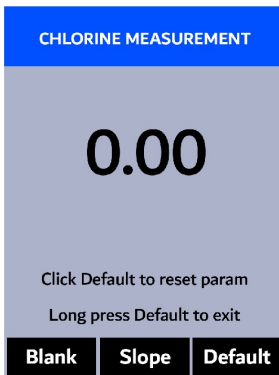

Figure 41.
9. Press **Cal** () to launch the **CHLORINE CALIBRATION** screen (Figure 41).